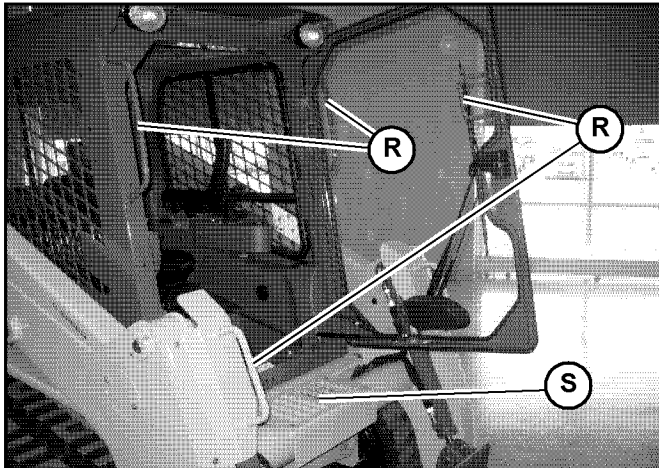

Fig. 41 – Cab Entry/Exit Handles/Steps
Use only step (S, Fig 41) and handles (R) on the machine when entering/exiting the cab.